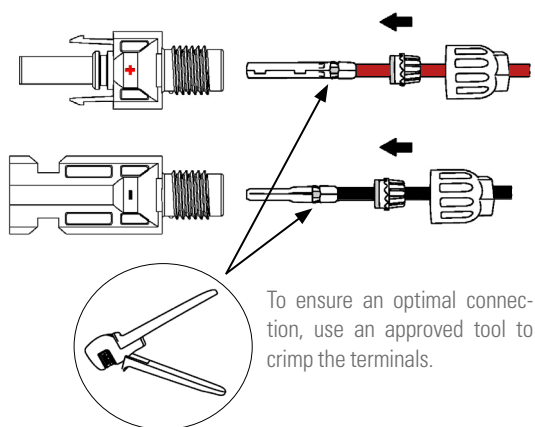

Fig. 24. Crimping the cable.
- d. Insert the DC cable through the DC connector nut on the metal terminal and press the terminal with professional crimping pliers (pull the cable to check that the terminal is well connected to the cable), as shown in Fig. 24.